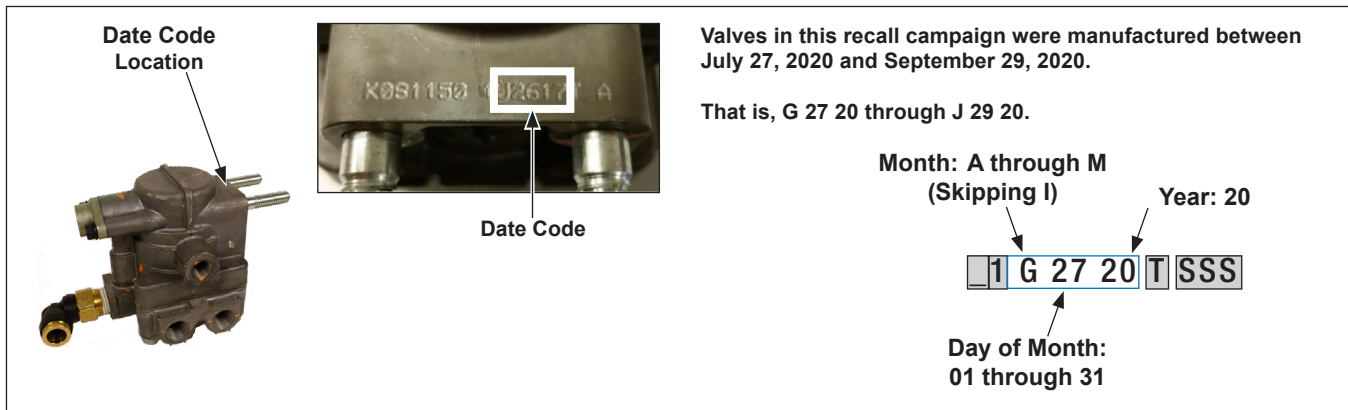

Figure 3 - SR-7 Spring Brake Modulating Valve Date Code Interpretation
1. See Figure 3. A potentially defective SC-3 single check valve that was purchased as part of an assembly with an SR-7 spring brake modulating valve can be identified by the date code on the SR-7 spring brake modulating valve. If the SR-7 spring brake modulating valve has a date code that is any date between, and inclusive of, 7/27/20 and 9/29/20, the SC-3 single check valve falls within the recall parameters. The SC-3 single check valve needs to be replaced.
See Figure 3. A date code is stamped (not cast) on the Bendix® SR-7® spring brake modulating valve body housing. Locate the date code – removing the paint coating if necessary – to read the code. Disregard the codes shown in gray in Figure 3. The portion of the date code that determines the date of manufacture is highlighted and can be interpreted as follows: